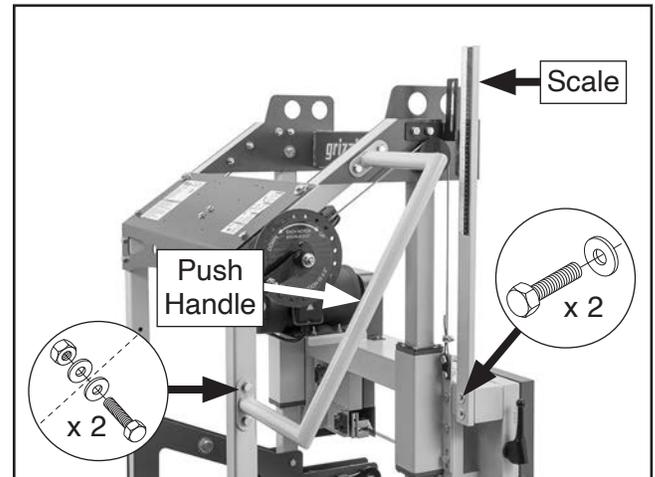

Figure 41. Push handle and scale installed.
39. Tighten (8) lock nuts securing cable end plates.
40. Attach push handle to left rear post with pre-installed fasteners shown in **Figure 41** and (2) M10-1.5 x 80 hex bolts, (4) $\frac{3}{8}$ " flat washers, and (2) M10-1.5 hex nuts.
41. Attach scale to saw head with (2) M6-1 x 30 hex bolts and $\frac{1}{4}$ " flat washers (see **Figure 41**).